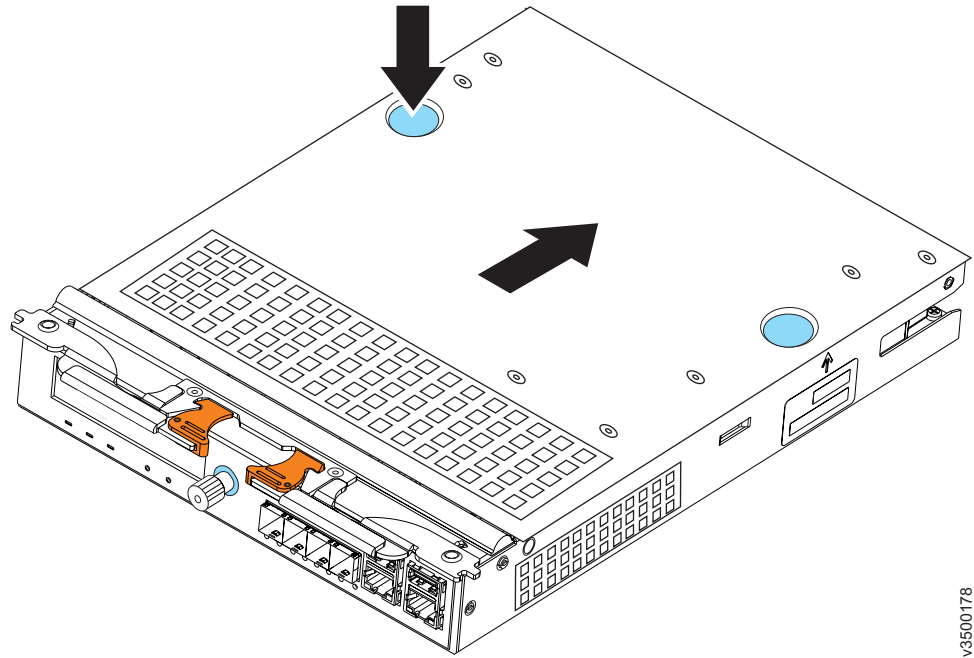

Figure 13. Removing the canister cover
2. Turn the canister over and open the cover as shown in Figure 13.